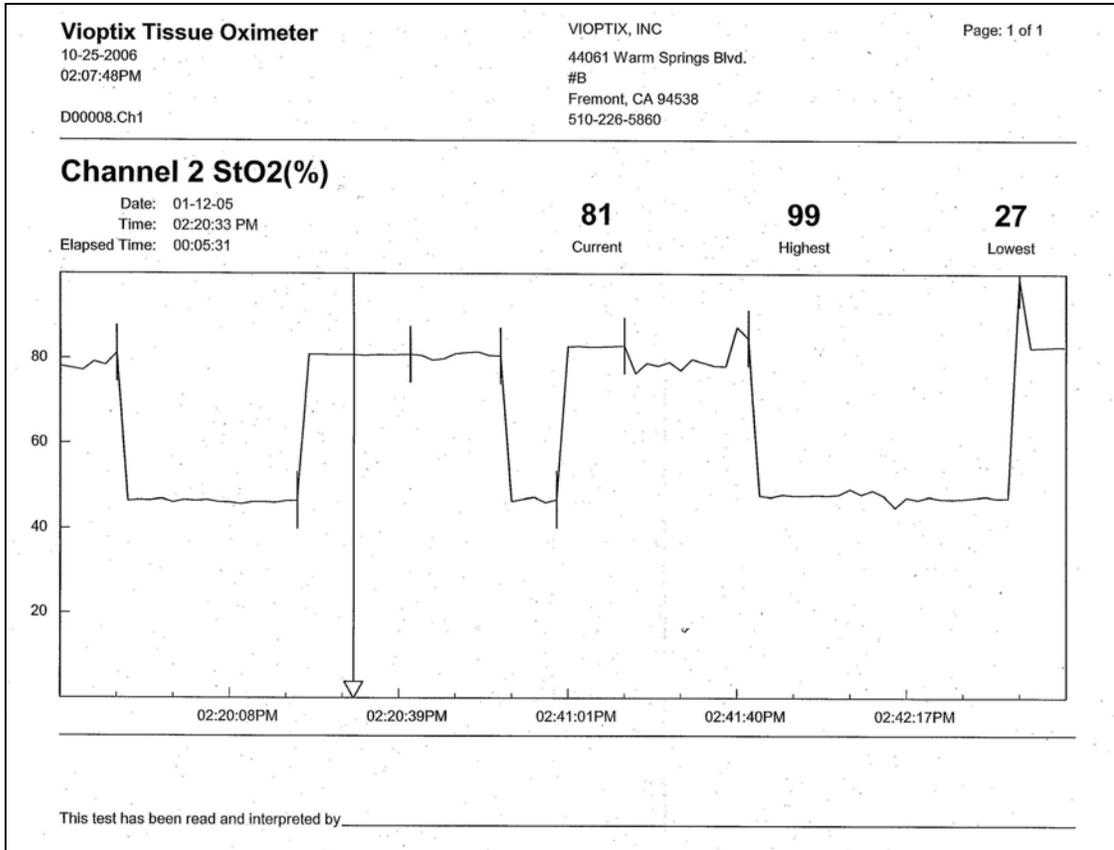

Figure 39. StO₂ Print Screen Report
- Figure 39 displays the printed output from an StO₂ data Print Screen.